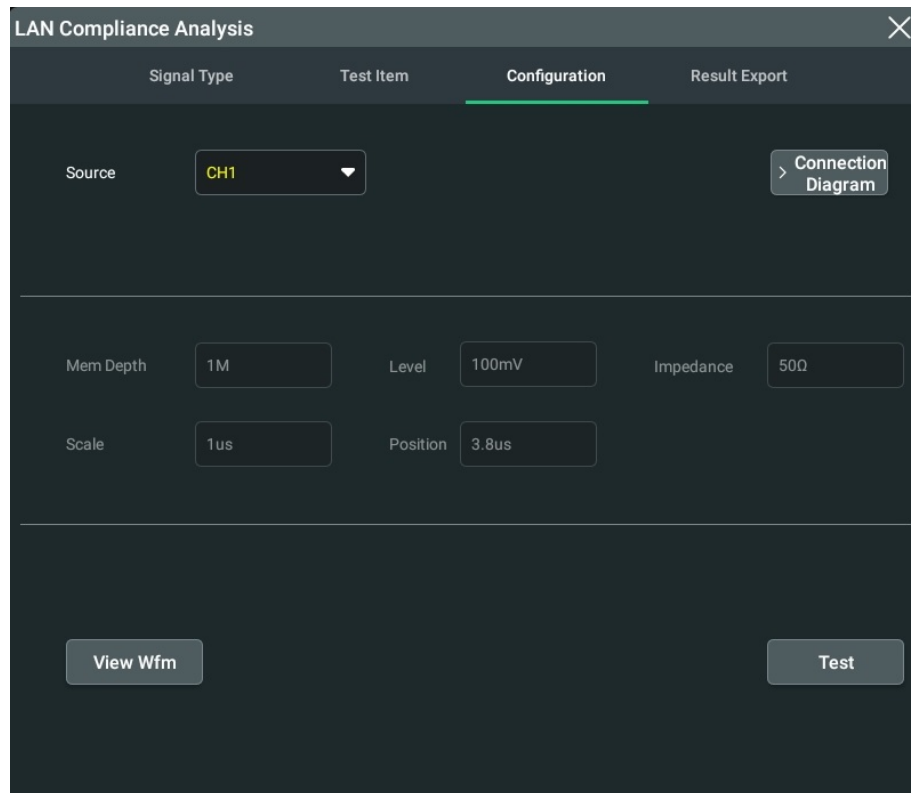

Figure 4.1 Test Configuration
4. After the specified signal type and test item are selected, the oscilloscope outputs a waveform based on the automatically set parameters such as level, scale, and impedance. Click or tap the **Configuration** tab to enter the "Configuration" menu. In this menu, you can view the parameters, as shown in *Figure 4.1*.